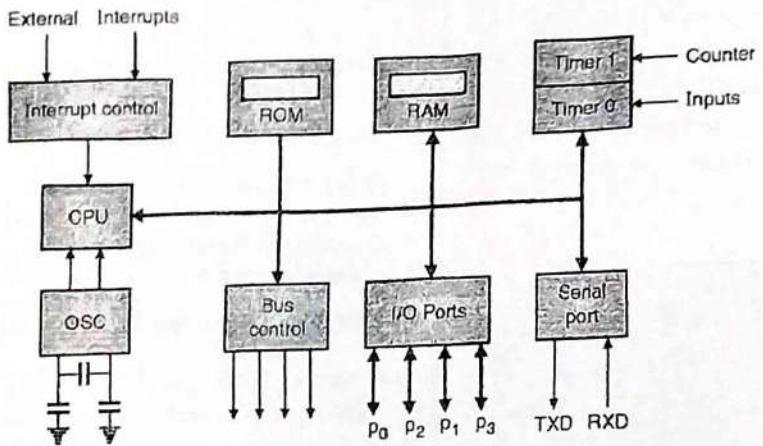

Fig. 1.2.1 : Block diagram of a microcontroller
- The Fig. 1.2.1 shows the block diagram of a microcontroller.